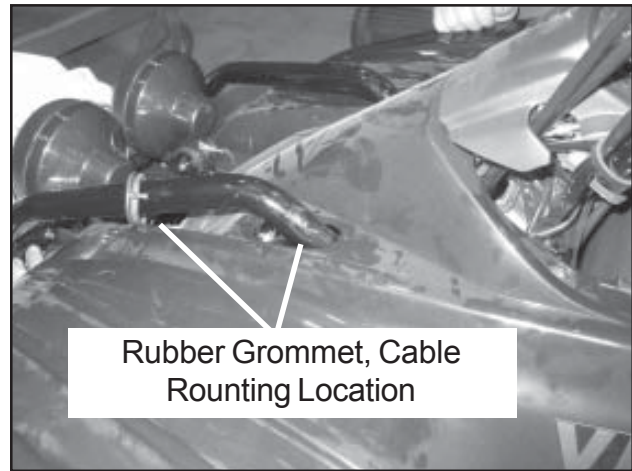

Figure 19 Cable Routing
5. Slide the rubber grommet, located on the left front side of the ATV, away from the plastic fender so that the cable can be routed through this area, **Figure 19**.